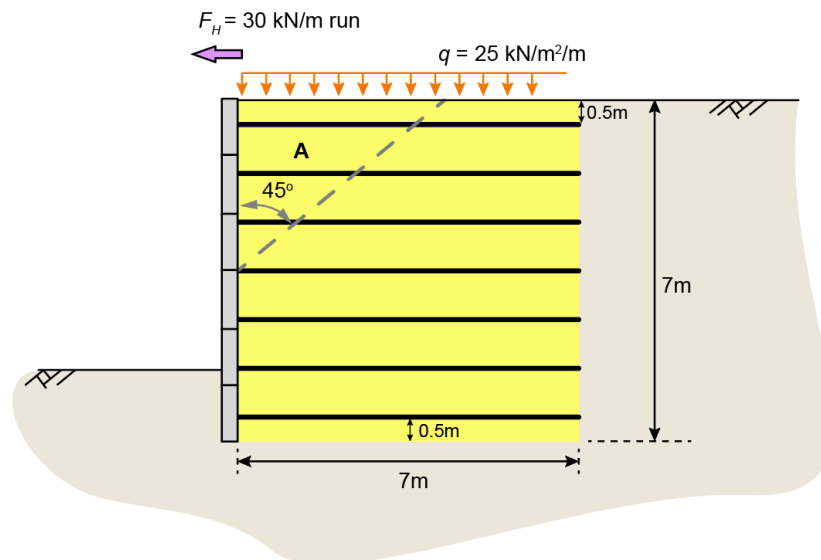

Figure Q2 Reinforced soil wall
2. A soil wall reinforced with geogrid strips is shown in **Figure Q2**. The top strip is placed at 0.5 m below ground level. The strips are 0.15 m wide, 7 m long, and the horizontal and vertical spacings are 1.0 m. The 120-year ultimate tensile load is 64 kN. The granular fill has a bulk unit weight of 19 kN/m^3 , an effective cohesion of 0 kN/m^2 and an effective friction angle of 33° . The geogrid/fill friction angle is 22° . The surcharge is $25 \text{ kN/m}^2/\text{m run}$, while the horizontal force is 30 kN/m run .
- c) Determine the factor of safety for the failure plane and associated **wedge A** shown in **Figure Q2**. [12 marks]